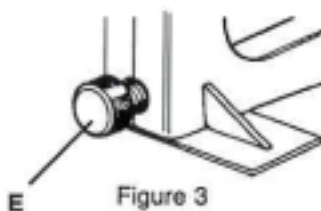

Figure 3
The pressure adjustment (E) will affect the depth of penetration of the point in wood. Although factory set accommodates most frames, the depth can be increased by turning the knob clockwise and decreased by adjusting it counterclockwise. Figure 3.